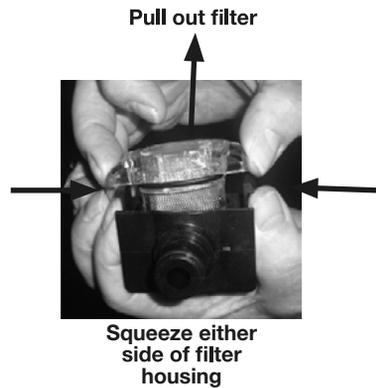

Fig.2
- This is a good time to de-assemble and clean the pump filter. Squeeze either side of the filter housing to release the retaining tabs and pull the filter cassette out of the housing. See Fig 2